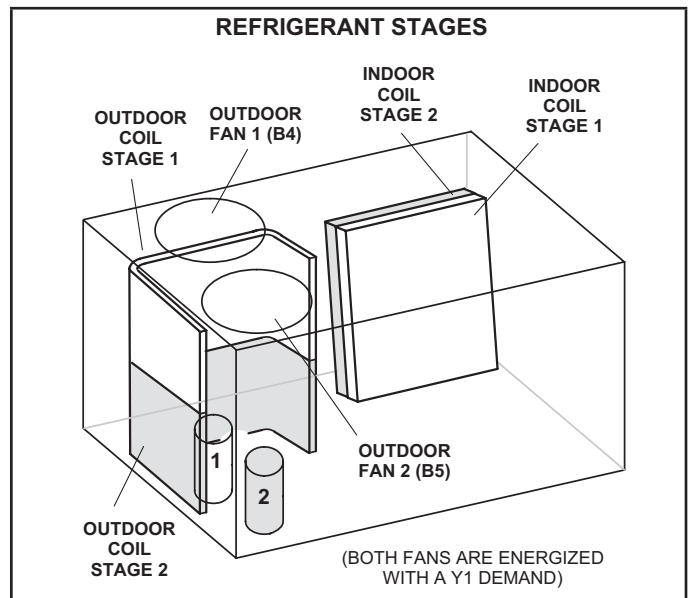

FIGURE 15
- 3 - Units contain two refrigerant circuits or stages. See FIGURE 15.